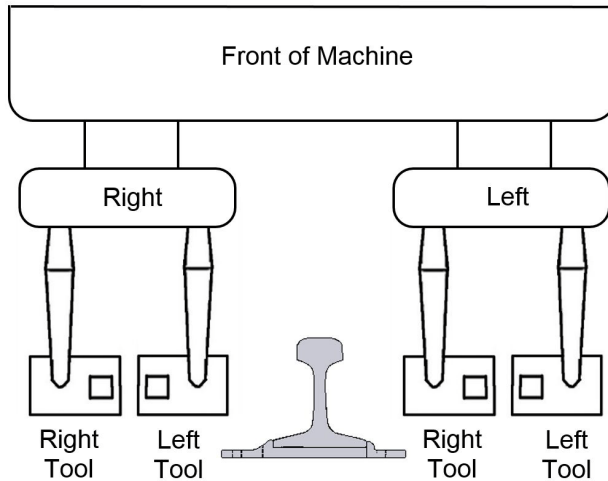
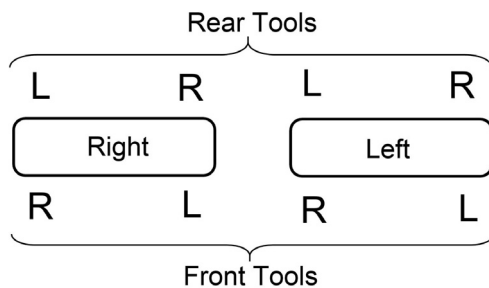

Figure 6-22: Tool Configuration
Figure 6-23: Tool Configuration
Tampers DO NOT use straight tools. The set of tools includes eight (8) left tools and eight (8) right tools. In all cases, the tool next to the rail is offset away from the rail. Refer to Figure 6-22 and Figure 6-23.